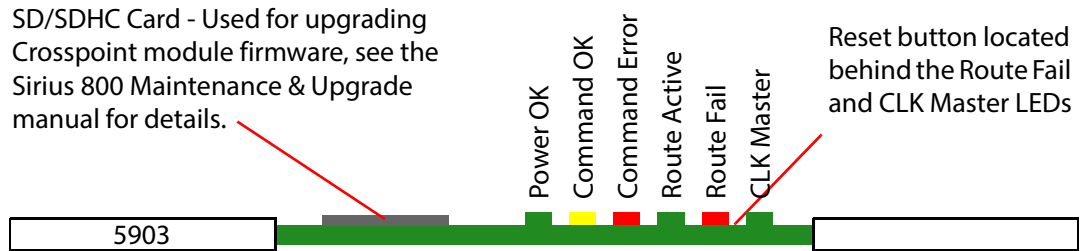

Figure 133 5903 Sirius 800 Audio Crosspoint Module LEDs
Table 53 shows the LED color code for the LEDs at the front of the 5903 Audio Crosspoint module, and Figure 133 shows the front edge of the module.
2. Press the **Reset** button on the failed audio crosspoint module (Figure 133 on page 194) so that the working crosspoint module uses its own audio system clock.